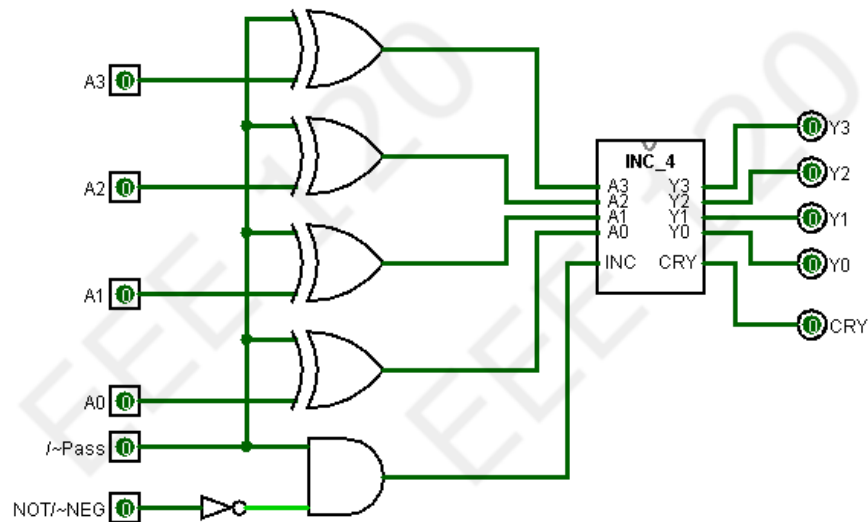
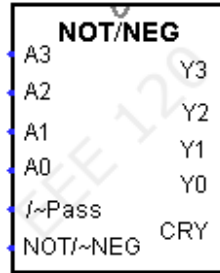

Figure 2. NOT/NEG circuit
Figure 3. Subcircuit symbol for NOT/NEG circuit
operation; it has no control inputs that allow us change the function that it performs. Starting with this circuit, you will modify it as shown in Figure 2.
The modifications shown in Figure 2 allow this circuit to do three things: it can perform the **2's complement operation** (i.e., negate arithmetically), perform the **1's complement** (i.e., logically complement each bit, also known as performing the NOT of each bit) or allow the input argument to **pass through** unscathed. In Figure 2, two control signals have been added to affect these controls: the **/~Pass** and the **NOT/~NEG**. The notation chosen for these signals communicates two things: which operation the signal controls, and whether the signal is high or low when active. The **'/~'** notation means that the signal is low (0) when active. If the **'/~'** is not present, the signal is high when active. (If you understand the notation we are using, in many cases you will be able to determine the functions being performed by each circuit simply by inspecting the notation.)
Build and test the circuit shown in Figure 2. Each of the circuits we design in this lab will play a key role in your microprocessor; so it is important to select your tests to ensure that each of these circuits work correctly. Briefly mention in your lab template how you chose to test this circuit. It is not necessary to describe all of the input and output values you tested; instead, for each function (e.g., two's complement, etc.) give one or two examples of input/output pairs you generated. After you are convinced that the circuit is working properly, imbed it in a subcircuit using the notation of Figure 3.